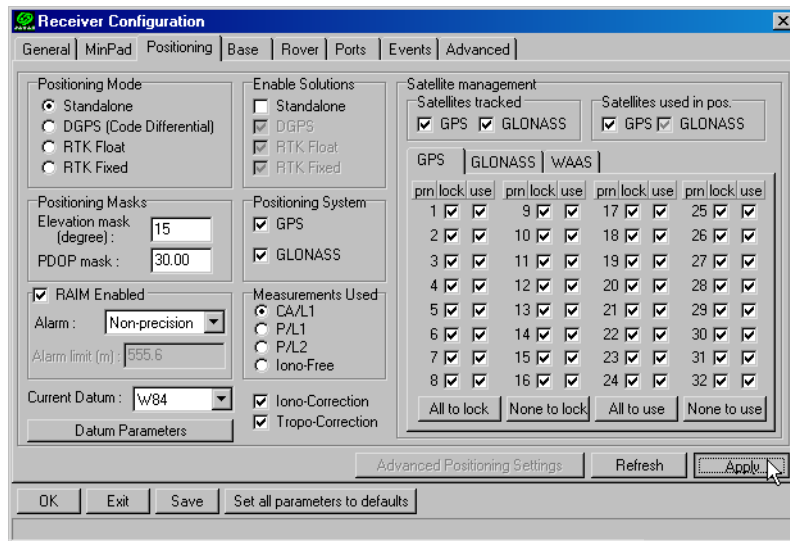

Figure 3-10. Receiver Configuration – Positioning
- Select the **Positioning** tab and set the Position Masks, Elevation mask parameter to 15 (Figure 3-10).
4. Select the **Positioning** tab and set the Position Masks, Elevation mask (degrees) parameter to 15 (Figure 3-10 on page 3-15).